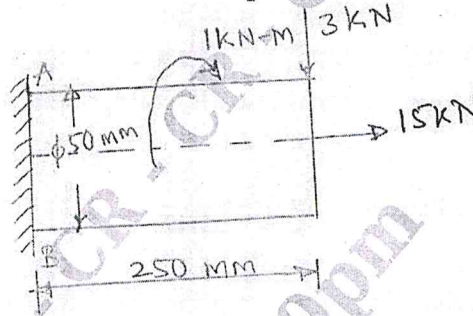

Fig. Q1 (c)
c. A circular rod of diameter 50 mm is subjected to loads as shown in Fig. Q1 (c). Determine the nature and magnitude of stresses at critical points 'A' and 'B'. (10 Marks)